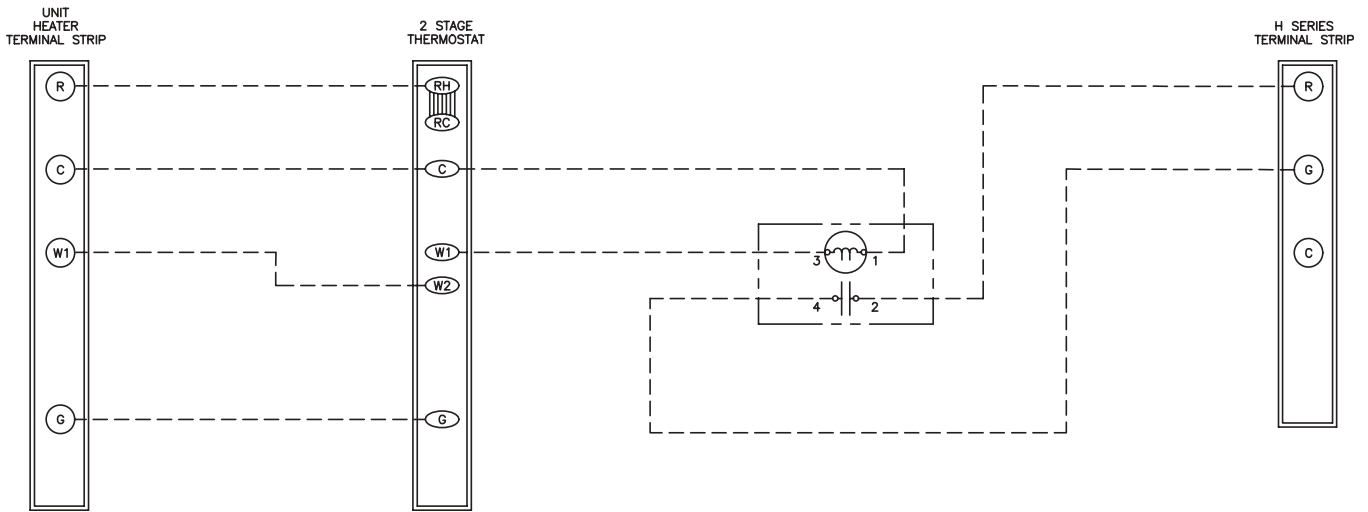

Figure 9. Heater and Destratification Fan Wiring Diagram
- If the installation features a heater and a model H destratification fan controlled by a single two-stage thermostat, ensure that the wiring is in accordance with the wiring diagram shown in Figure 9.